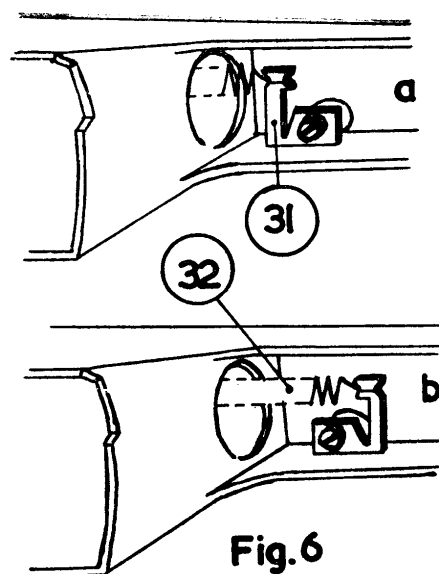

Fig.6
2. The needle pressure with an AG3016 pick-up head fitted to the pick-up arm should be 6—9 grams. The method of adjustment is shown in figs. 6 and 7. If the needle pressure is too light, the lip of the adjusting plate should be bent to the left by means of a screwdriver (fig. 7b). Should this adjustment not be sufficient the spring 32 can be slightly extended.